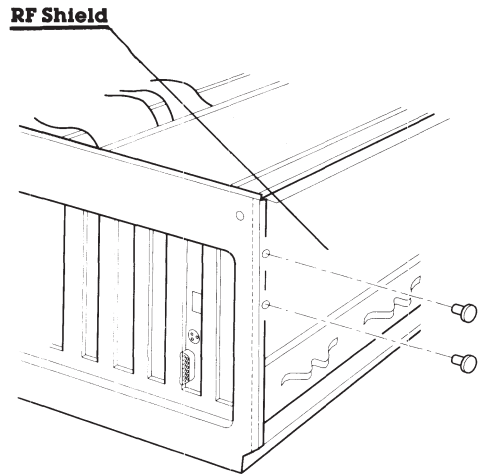

Figure 7-20. Location of the RF Shield.
3. Remove the RF shield (Figure 7-20).